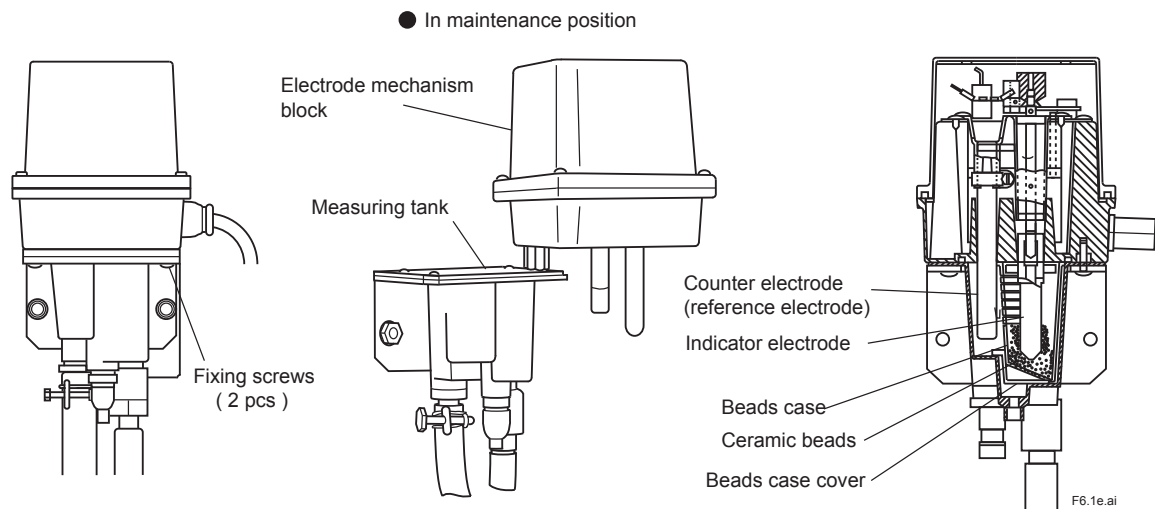

Figure 7.1 Electrode Mechanism Block in maintenance
- (1) Before lifting the electrode mechanism block from the measuring tank, stop the electrode rotation. In <CELL> mode of Operation Level ("CELL.ON" displayed in message display), press the key. Stopping the electrode rotation (turning drive motor power OFF) results in the "CELL" display disappearing.
- (2) Place the electrode in its maintenance position (see Fig. 7.1) and start it rotating again. Loosen the two screws that fix the electrode mechanism block to the measuring tank, and lift it vertically to remove it from the tank. After resting the block in its maintenance position, pressing the key in <CELL> mode restarts electrode rotation, and the "CELL" display is lit.